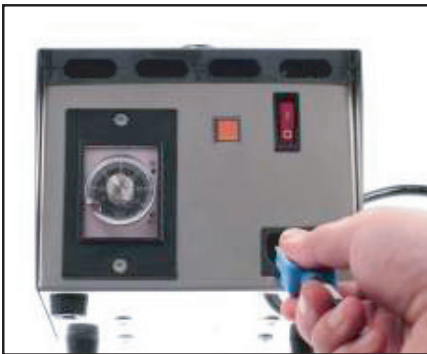

Figure 7.
3. Plug your cleaner's Floating Cable into the Power Supply, see Figure 7. Be sure that the Power Supply ON/OFF Switch is in the "OFF" position.
Unplug your cleaner's Floating Cable from the Power Supply, see Figure 7. Gently pull your cleaner toward you using the Floating Cable. When your cleaner is within reach, remove it from the water using the handle only, see Figure 10.